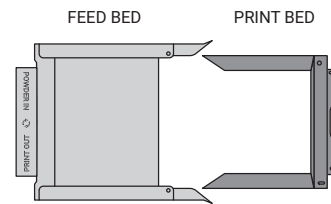

Fig. 3.2 The proper arrangement of the IO BOX.
6. Place the folded IO BOX inside the print chamber. Ensure its elements are arranged like in the picture (fig. 3.2).